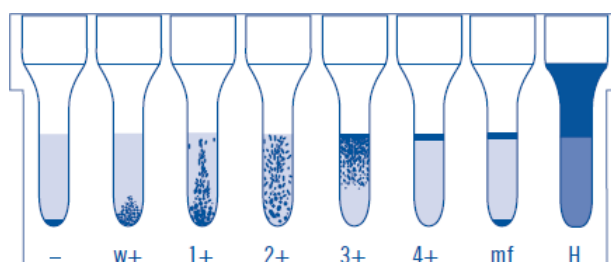

Figure 1. Picture of an example of reaction grades.
**Positive results:** agglutination and/or hemolysis of the red blood cells is visible in the microtube. In a positive result the agglutinated red blood cells may remain throughout the gel column showing different reaction grades (see Reaction Grades and Figure 1 for a picture of example of reaction grades). Some positive reactions may also form a pellet in the bottom of the microtube. A positive result indicates the presence of IgG antibodies and/or complement fraction coated on the red blood cells.